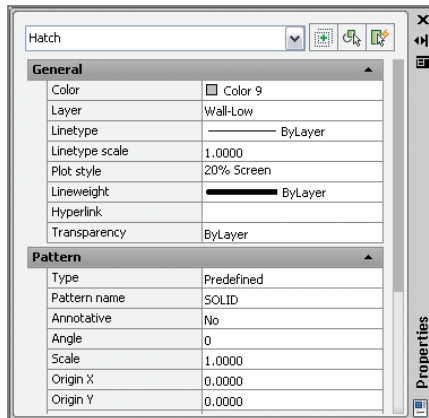

FIGURE 14.20 Changing the plot style assigned to a specific object
- Open the Plot Style drop-down in the Properties palette, and select Other from the menu. Select 20% Screen in the Select Plot Style dialog box that appears. Click OK, and 20% Screen is listed as the plot style for the Hatch object in the Properties palette (see Figure 14.20). This object will plot with reduced intensity, so the hatch appears lighter.